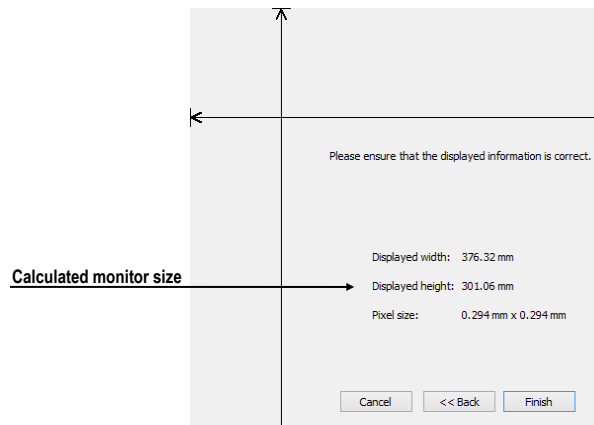

Figure 75 – Monitor calibration verification
5. Verify the calculated calibration size with the actual physical distance measurement tool (ruler) and click the **Finish** (see Figure 75).